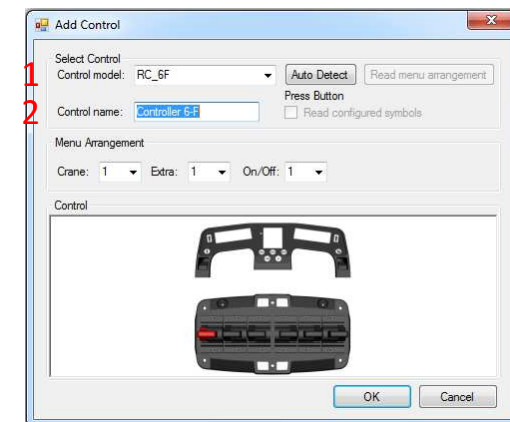

Figure 44. Change name.
By marking and deleting the pre-set name Controller 6-F it is possible to rename the controller with an own name, see Figure 44 (1).
It is possible to extend the menu system with multiple function menus called *Crane*, *Extra* and *On/Off*, see Figure 44 (2).